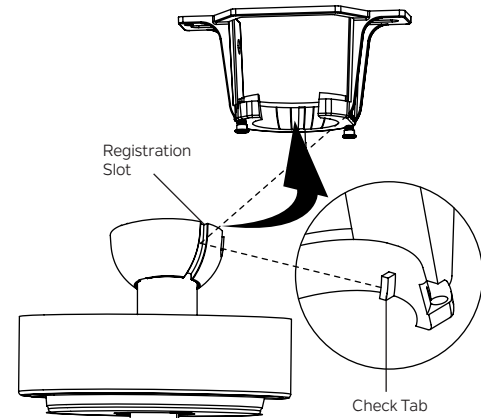

Fig. 10
Step 6. Now lift the motor assembly into position and place the hanger ball into the mounting bracket. Rotate until the check tab has dropped into the registration slot and seats firmly. (Fig. 10) The entire motor body should not rotate if this is done correctly.